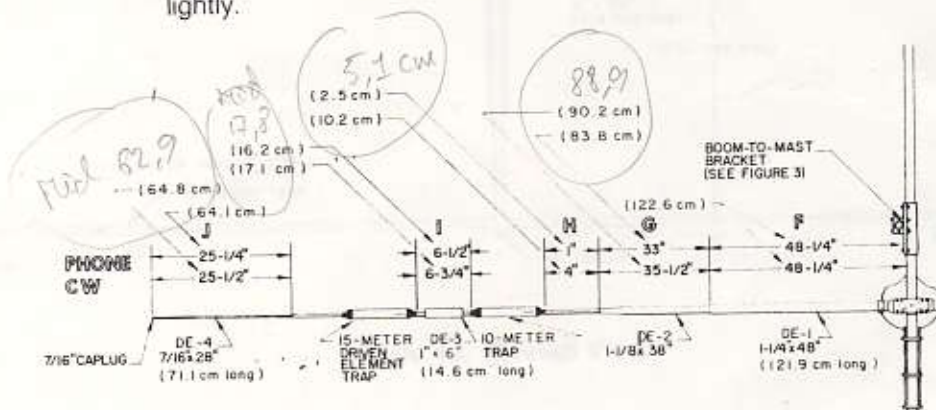

Figure 11. Driven Element
Slip two 1" compression clamps over the DE3 section (1" x 6", 15.2 cm long, item 12). Now slip the DE3 section over the 10-meter trap then slip the shorted end of the 15-meter Driven Element trap (878637, item 14) into the DE3 section. Make certain the shorted end of the trap (identified by part number) slipped into the DE3 section. Measure dimension 1 for your mode of transmission as shown in Figure 11, keeping the DE3 section approximately equidistant from the two traps. Now tighten the compression clamps lightly.
Slip a 1/2" compression clamp over the swaged end of the 15-meter DE trap. Select the DE4 section (7/16" x 28", item 11) and slip it into the swaged end of the 15-meter DE trap. Measure dimension J for your mode of transmission as shown in Figure 11 then tighten the compression clamp lightly.
Carefully recheck all measurements as shown in Figure 11 and make certain that the shorted ends of the traps are pointed towards the boom and trap drain holes are facing downward. Now tighten all compression clamps securely.
Select the DE1 section of tubing (1/4" x 48", 121.9 cm long, item 4). Slip a 1 1/4" compression clamp over the DE1 section. Select the DE2 section (1 1/4" x 38", 96.5 cm long, item 9). Slip the unswaged end of the DE2 section into the DE1 section and measure dimension G for your mode of transmission as shown in Figure 11. Now tighten the compression clamp lightly.
Slip a 1" compression clamp over the swaged end of the DE2 section. Select the 10-meter trap (878649, item 16) and slip the shorted end (identified by the part number) into the DE2 section. Measure dimension H for your mode of transmission as shown in Figure 11. Make certain the drain holes in the trap are facing downward. Now tighten the compression clamp lightly.